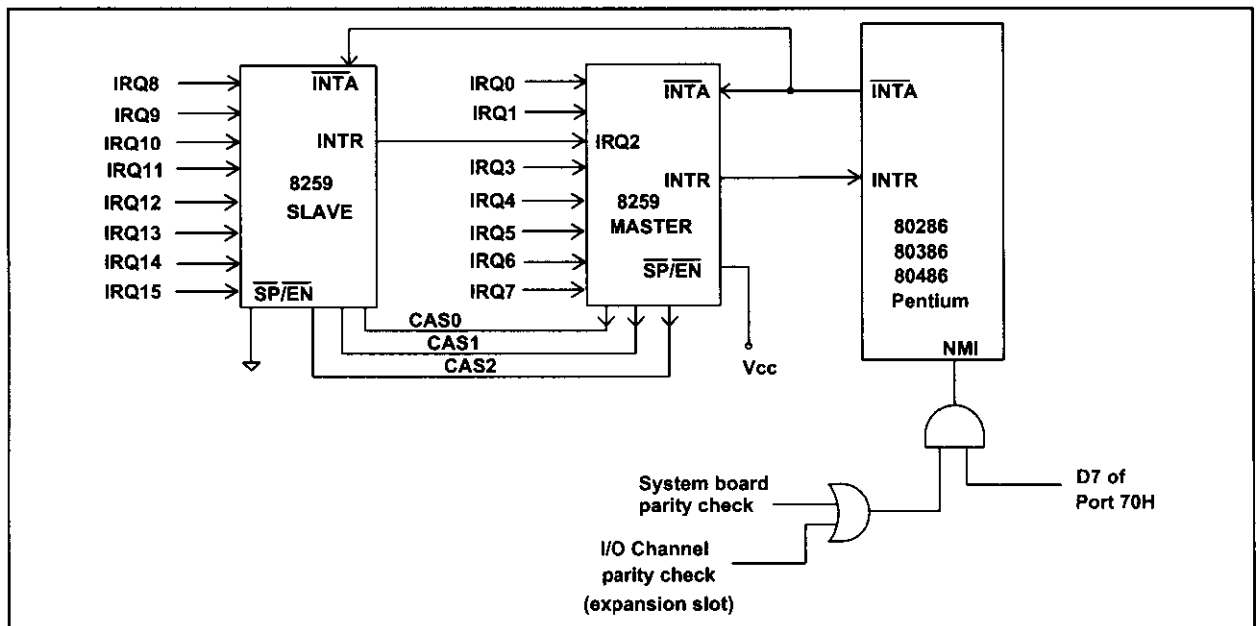

Figure 14-11. 8259 Chips in Master/Slave Relation for 286 and Higher PCs
In the design of the 80286-based IBM PC AT, IBM designers had to make sure that it was compatible with the 8088-based PC/XT. This lead to the use of IRQ0 and IRQ1 for the system timer and keyboard, respectively, as was the case in the PC/XT. IBM made the first 8259 a master, and added the second 8259 in slave mode. To do that, it connected the INT pin of the slave 8259 to IRQ2 of the master 8259. The master and slave 8259s communicate with each other through pins IRQ2, INT, CAS0, CAS1, and CAS2. See Figure 14-11. A detailed discussion of 8259 design in master and slave modes in IBM PC AT and compatibles follows.
1. The 8259  $\overline{SP/EN}$  pin must be connected to 5 V,  $V_{CC}$ , to make it the master in nonbuffered mode. See Figure 14-11.
1.  $\overline{SP/EN}$  must be grounded ( $SP/EN = 0$ ) for the 8259 in slave mode for nonbuffered mode. See Figure 14-11.